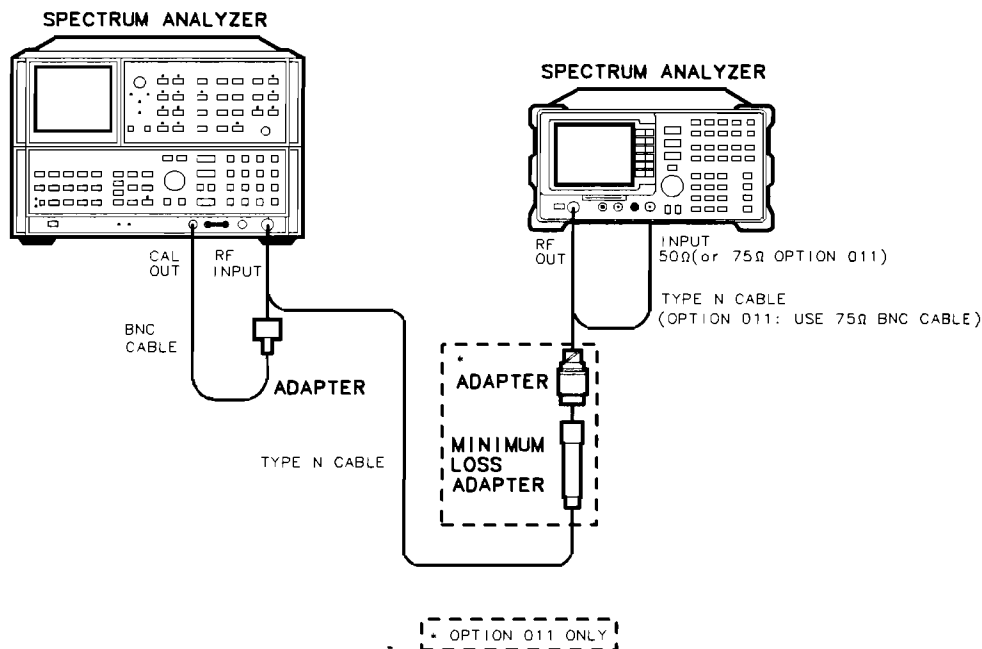

Figure 2-93. Harmonic Spurious Outputs Test Setup
1. Connect the Type N cable between the RF OUT 50 Ω and INPUT 50 Ω connectors on the spectrum analyzer. See Figure 2-93.
5. Connect the Type N cable from the tracking generator output to the microwave spectrum analyzer RF INPUT as shown in Figure 2-93.